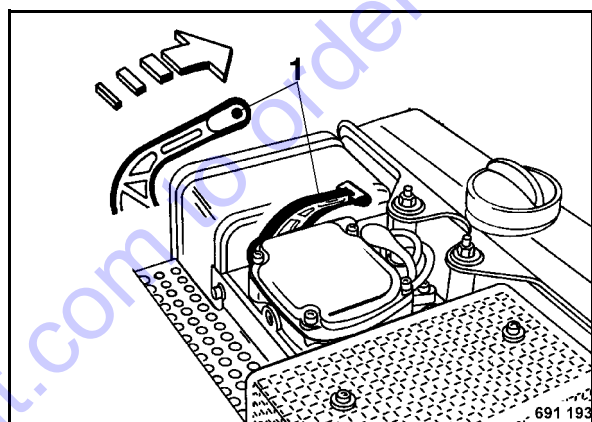

Fig. 56
- Decompression lever 1 (Fig. 56) must be initial position.